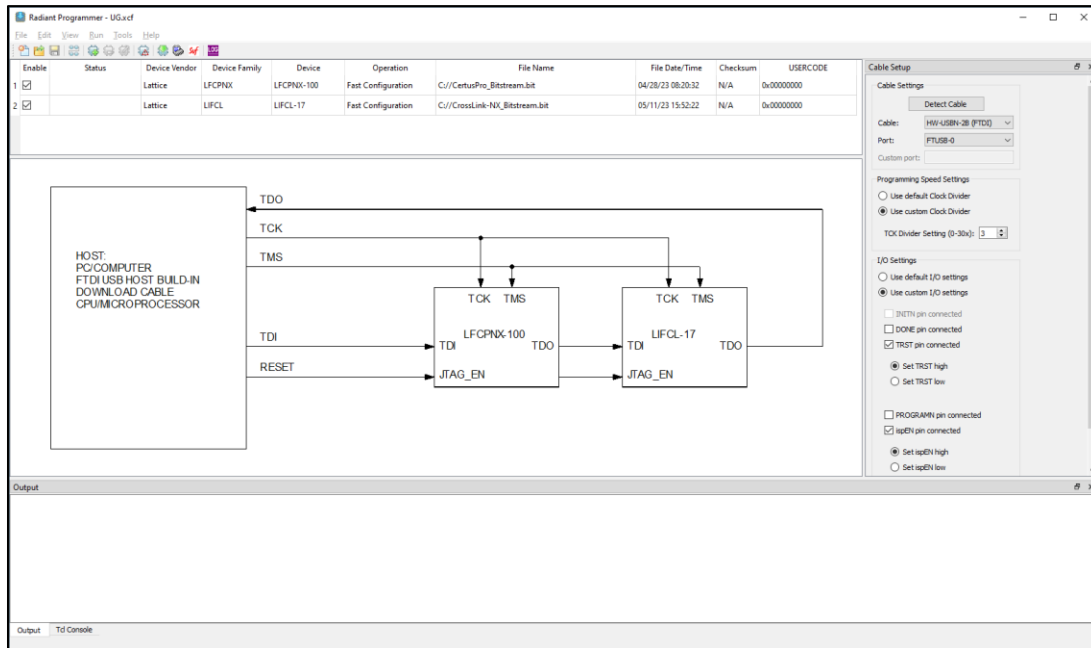

Figure 3.4. Lattice Radiant Programmer SRAM Fast Configuration
- When the board is successfully scanned, the window shown in Figure 3.4 opens. This interface allows you to enter the file name.